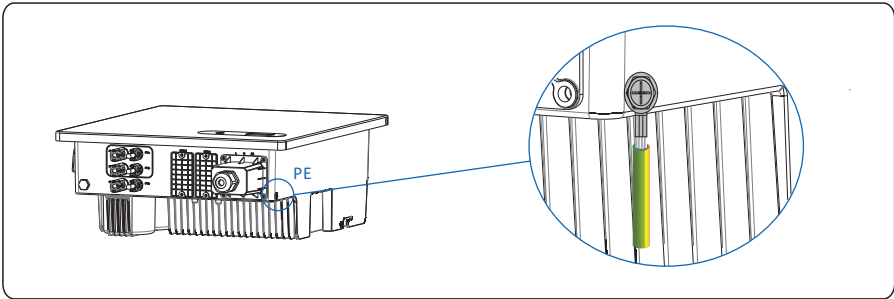

Figure 5.4 Secure the PGND cable
**Step 4** Secure the PGND cable (done by step 1 & 2) using the ground screw and tighten the screw to a torque of 1.2 N·m using a socket wrench, as shown in Figure 5.4.